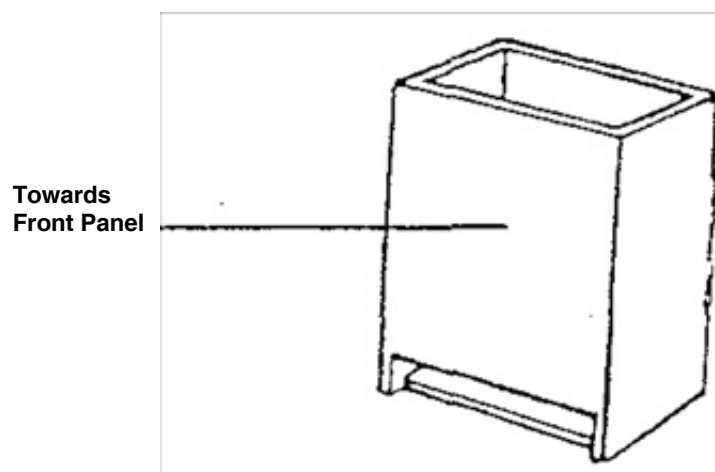

Figure 11.
2. To replace the condensate drains, hold the drain against the front panel under the rectangular hole (opening in side of drain should be toward front panel). Push up through the hole until the drain snaps into place see Figure 11.